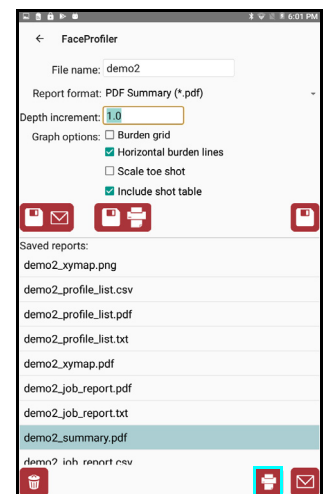

Figure 56
2. Tap to select the Report in the scrolling list of saved reports (at the bottom half of the page) and tap  (Figure 56).